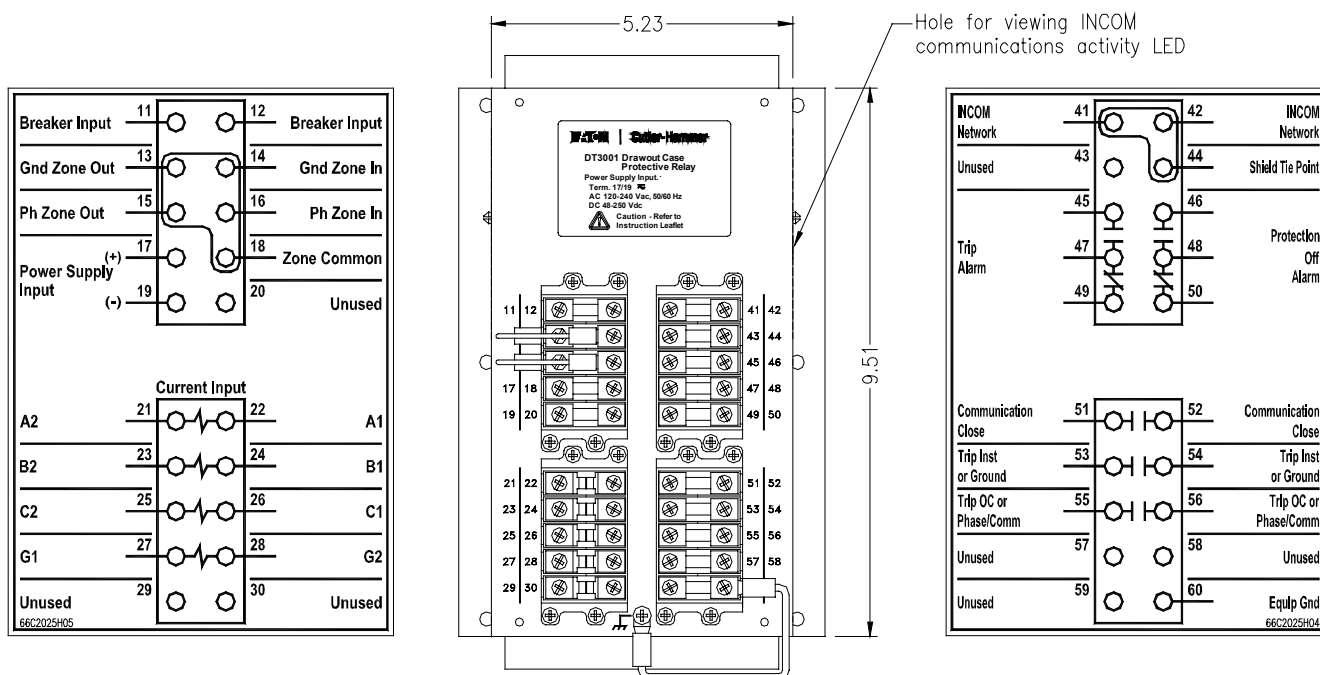

Fig. A-3 Rear View of DT3001 Drawout Enclosure
- Refer to Figure A-3. Place the outer case flush against the backside of the panel so that the case studs project through their respective holes.